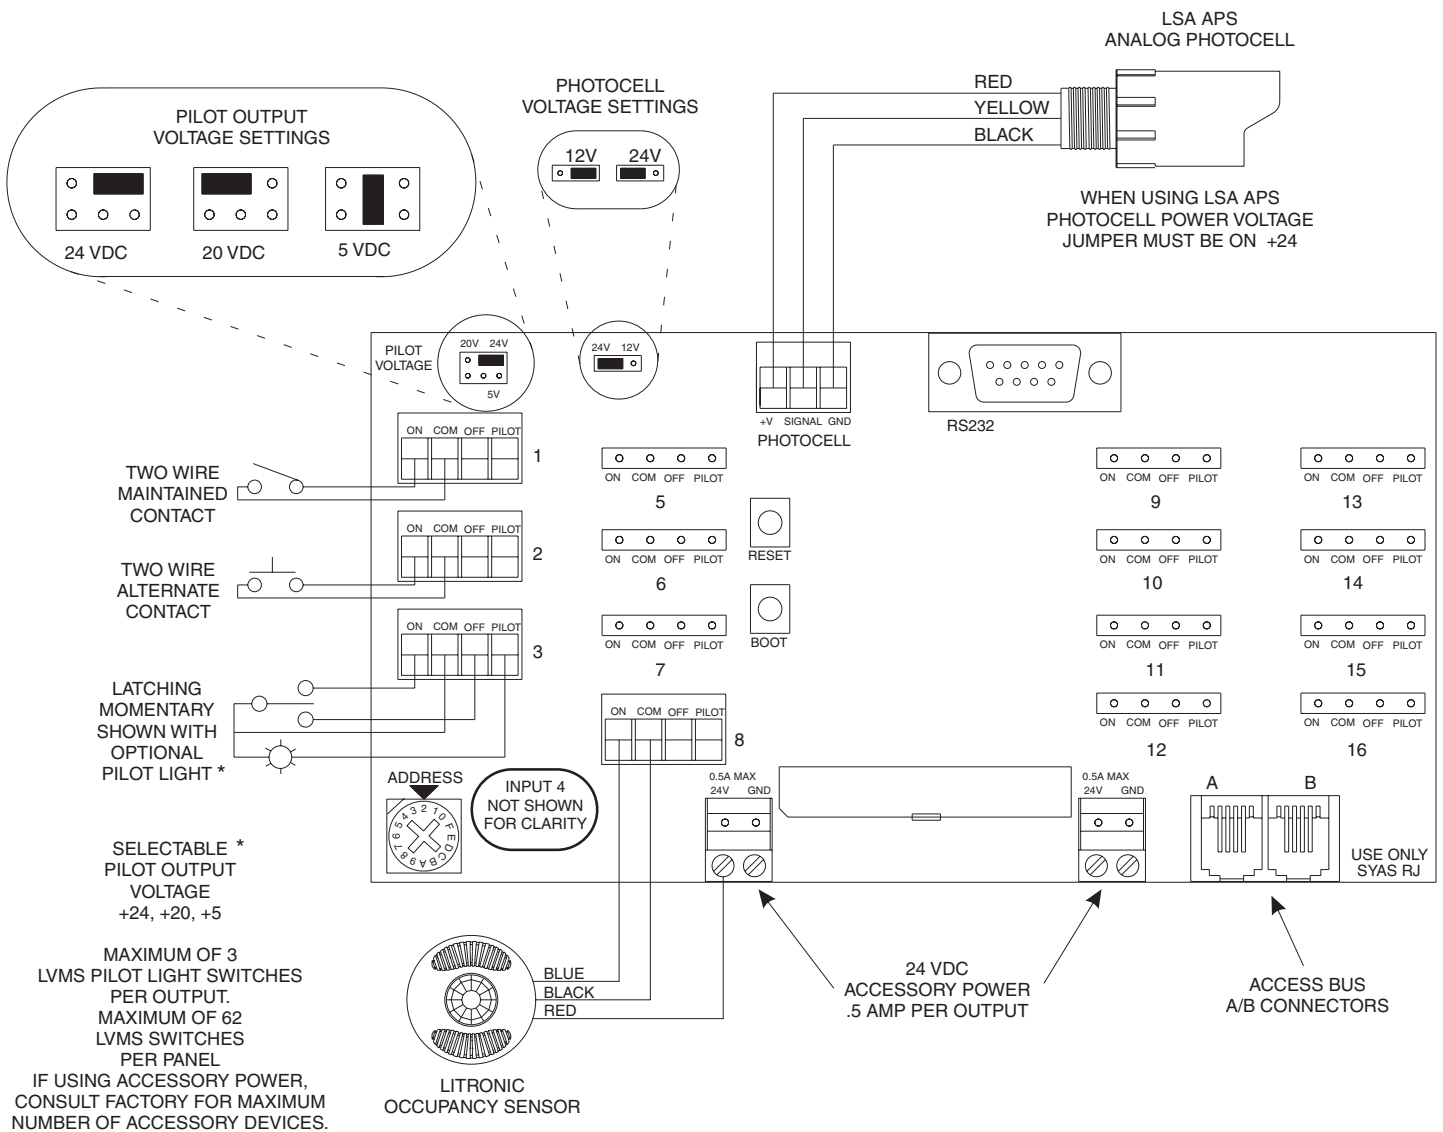

Figure 3 - Low Voltage Input Card Details
3. Connect any low voltage switches or sensors to the low voltage input card. (*See Figure 3 for details*)